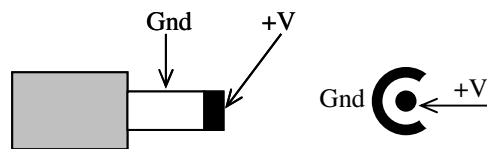

FIGURE 5: POWER SOCKET CONNECTION DIAGRAM
- ▲ External DC power in the range $+8V_{DC}$ to $+13V_{DC}$ may be connected via the 1.3mm concentric power socket located on the side. The internal pin is the positive connection and the outer connection is Ground (see Figure 5). The external power source can be a plug pack type unit such as the OSD136PP.